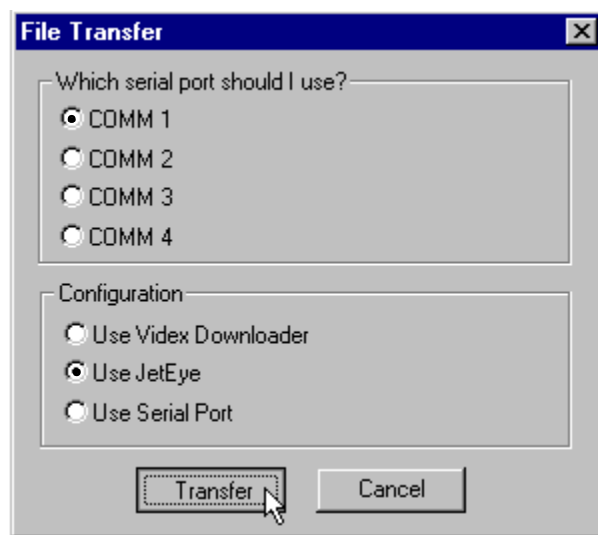

Figure 3-81 File Transfer Window
69. After you have selected the serial port and configuration, click **Transfer** at the **File Transfer** window (Figure 3-81).